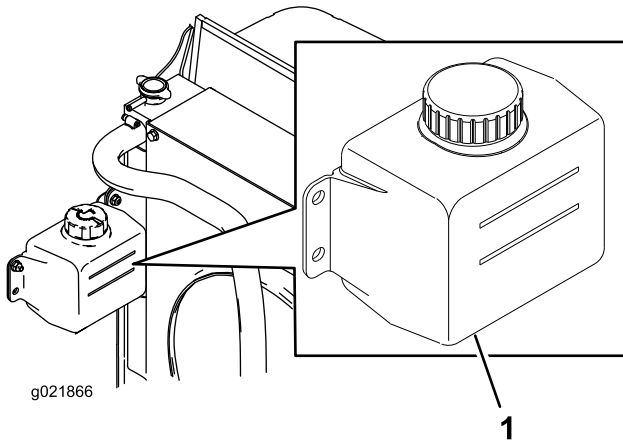

Figure 84
1. Check the level of coolant in the expansion tank (Figure 84).